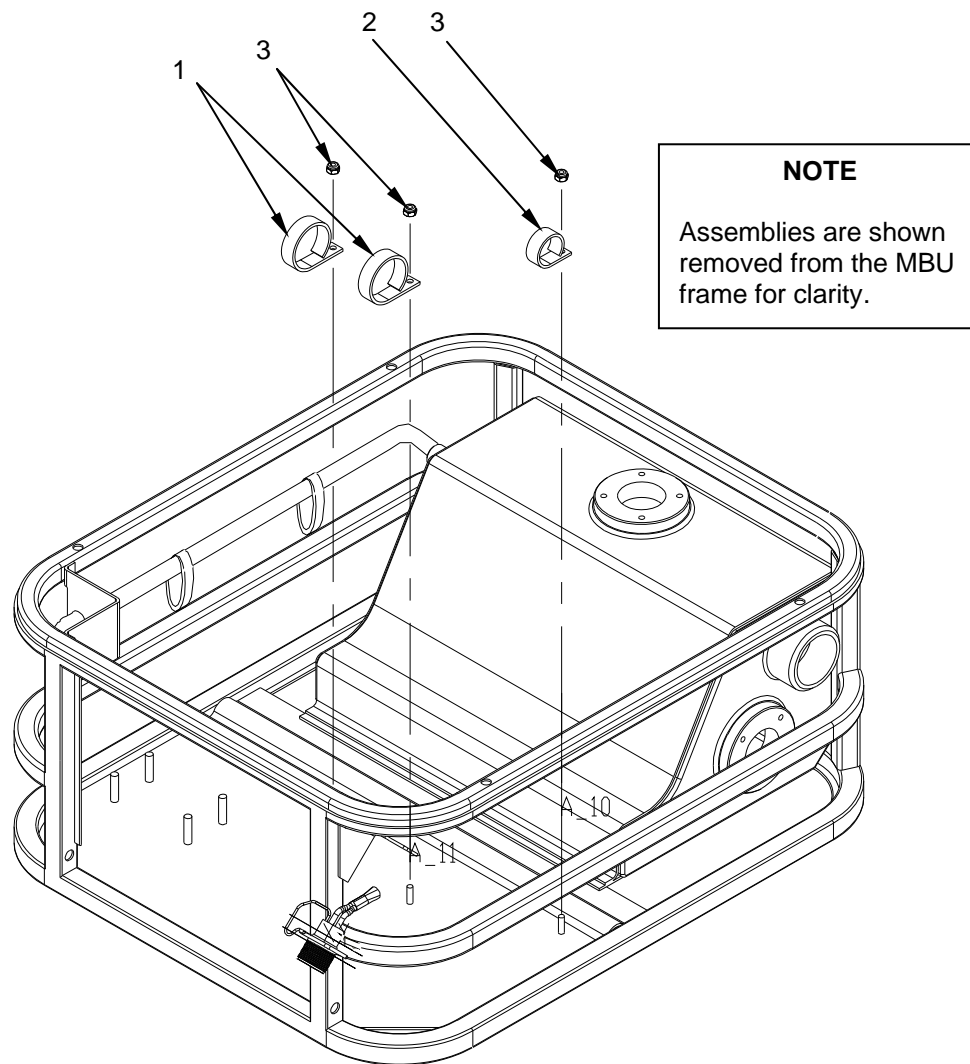

Figure 1. Replace Chassis Mounted Cable Clips and Hose Clamps.
- a. Locate the three chassis mounted cable clips (Figure 1, Item 1 and 2) on the bottom surface of the MBU. Take note that there are two sizes.
- b. Replace the chassis cable clips (Figure 1, Item 1 and 2) by removing the cables/hoses retained by the strap.
- c. Remove the nut (Figure 1, Item 3) securing the cable clips to the chassis.
- d. Install a new cable clip in place on the threaded chassis stud and fasten with the nut (Figure 1, Item 3) removed earlier.
- e. Reinstall the hoses/cables inside the cable clip (Figure 1, Item 1 and 2).